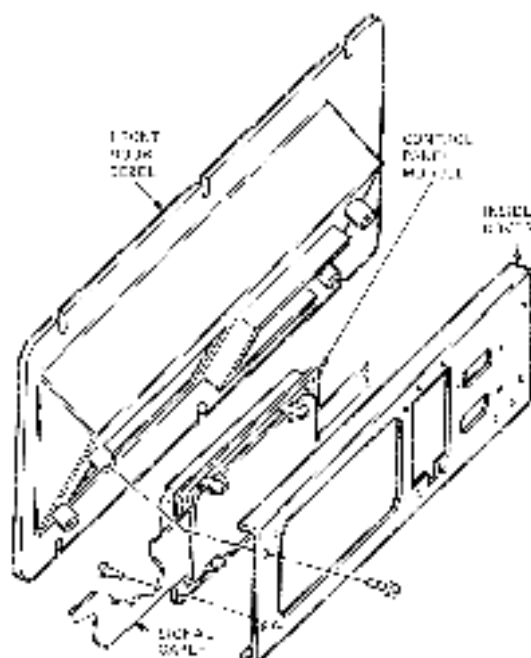

Figure 4.16 Control Panel Assembly.
2. Open front door. Find ground strap and remove screw that secures strap to tape deck (point E2). Remove hex nut that secures strap to rear of door (Figure 4-16).